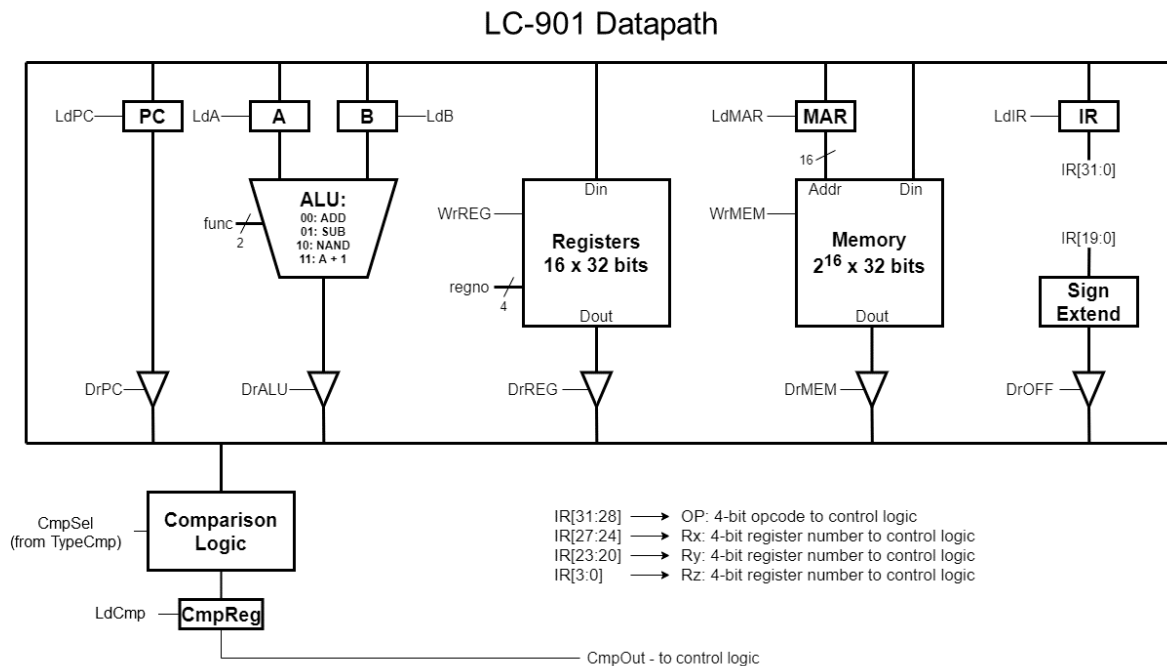

Figure 1: Datapath for the LC-901 Processor
2. Using CircuitSim, implement the LC-901 datapath. To do this, you will need to use the details of the LC-901 datapath defined in Appendix A: LC-901 Instruction Set Architecture. You should model your datapath on Figure 1.
The “comparison logic” box in Figure 1 is responsible for performing the comparison logic associated with the BEQ and BLT instructions. The comparison logic should read the current value on the bus plus the mode bits from the IR. When executing BEQ and BLT, you should compute $A - B$ using the ALU. While this result of the ALU is being driven on the bus, the comparison logic should read the result $A - B$ and output a single “true” or “false” bit for either the condition $A == B$ or $A < B$ depending on the mode input.
2. Implement the Microcontrol Unit using CircuitSim. The appendix contains all of the necessary information. Take note that the input and output signals on the schematics directly match the signals marked in the LC-901 datapath schematic (see Figure 1).
3. Connect the completed control unit to the datapath you implemented in Phase 1. Using Figures 1 and 2, connect the control signals to their appropriate spots.